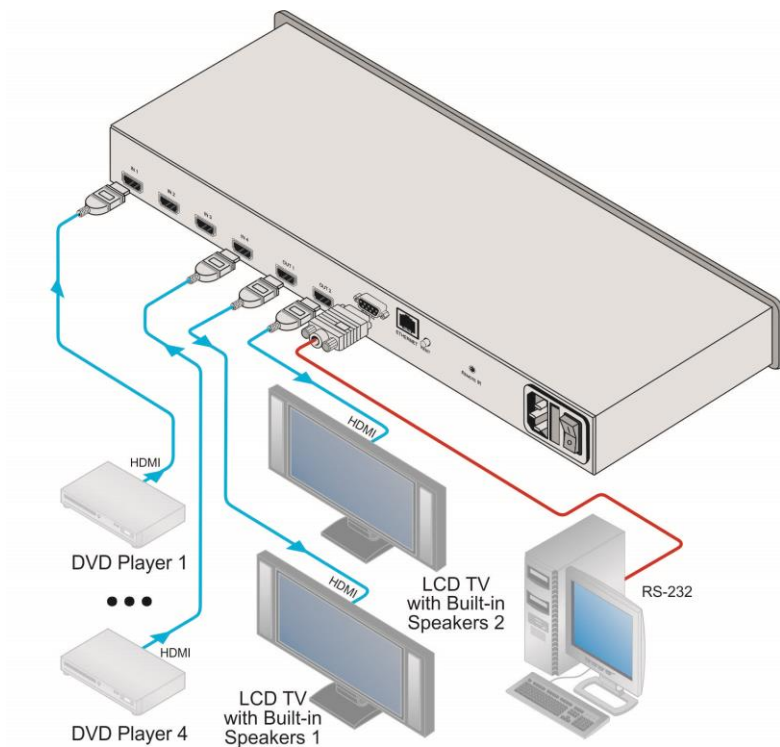

Figure 3: Connecting the VS-42HN 4x2 HDMI Matrix Switcher
To connect the **VS-42HN 4x2 HDMI Matrix Switcher** as illustrated in the example in Figure 3:
4. Connect the device to the mains electricity (not shown in Figure 3).